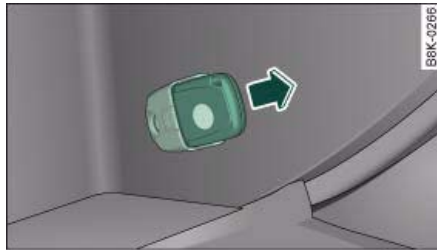

Fig. 33 Glove box:
- Open the glove box and take out the adapter for the spare key ⇒ fig. 33 -arrow-.